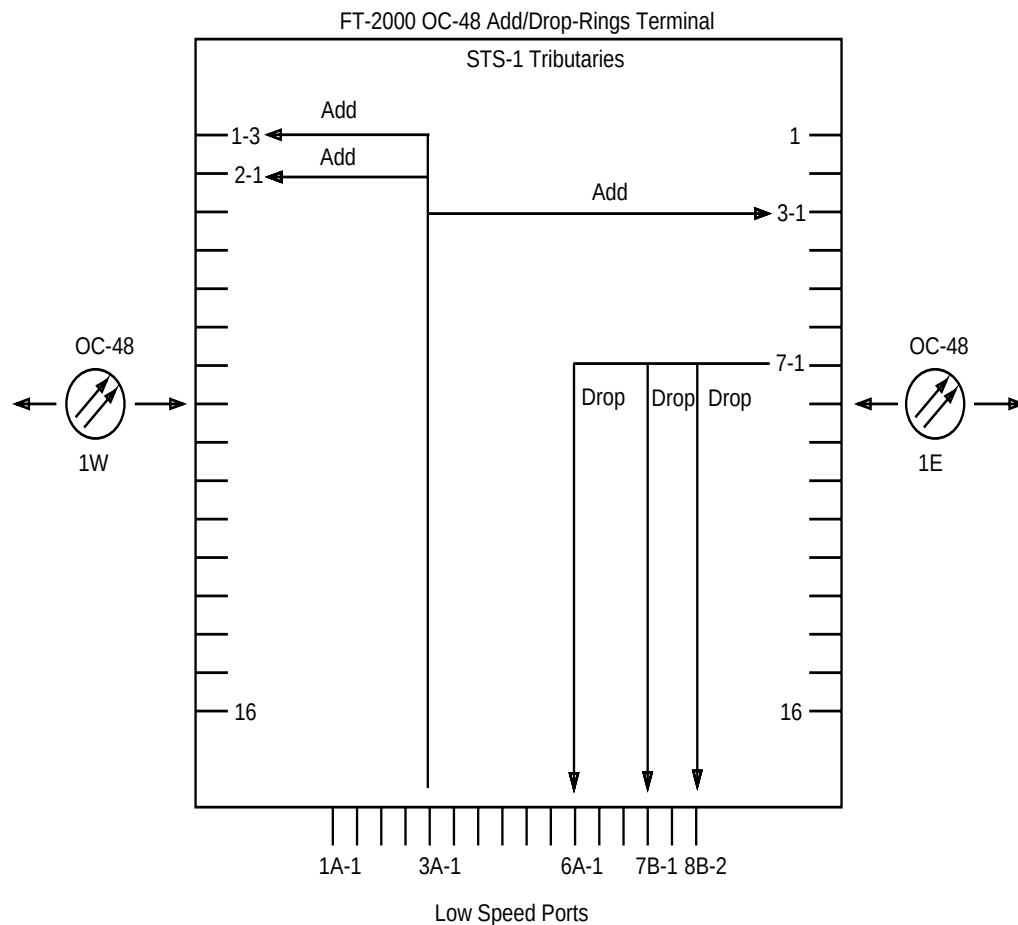

Figure 8-13. Multiple STS-1 Bridge Cross-Connections at an FT-2000 OC-48 Add/Drop-Rings Terminal
- **Multiple bridge cross-connections:** A multiple bridge cross-connection is three or more superimposed cross-connections sharing the same source. The source can be any incoming STS-1 tributary of OC-48 high-speed line 1E or 1W, or any service low-speed port. For example, Figure 8-13 shows incoming service STS-1 tributary 1 of STS-3 tributary 7 (7-1) on OC-48 high-speed line 1E cross-connected to service low-speed port 1 of slot 6A (6A-1), port 1 of slot 7B (7B-1), and port 2 of slot 8B (8B-2). Figure 8-13 also shows service low-speed port 1 of slot 3A (3A-1) cross-connected to